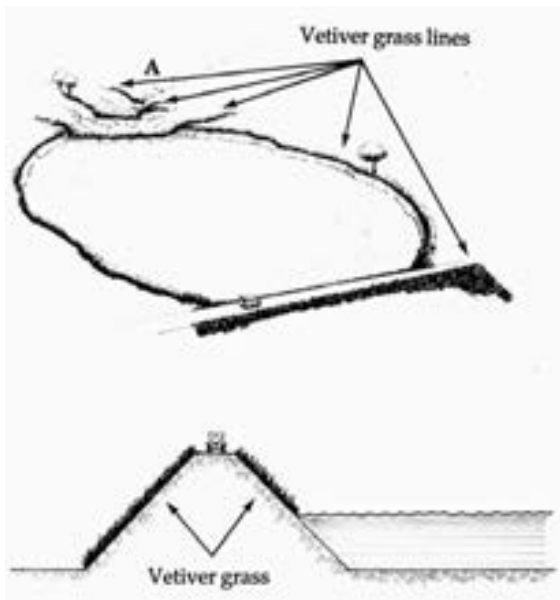

Figure 38. Vetiver hedges protect dams.
A similar approach can be taken to protect dams. Small dams are silting up at an alarming rate throughout the world. Once they become filled with silt, they are of no further use - and in many cases there is no other site suitable for a new dam. If vetiver grass is planted around the sides of the dam, as shown in the illustration below Fig. 38, the silt carried by runoff from the surrounding hills will be trapped before it reaches the dam. Vetiver hedges planted across the inlets (A) of small dams on intermittent streams will protect the dams from siltation. In time, these hedges will form stable terraces that can be used for cropping or tree planting. In the bottom illustration, vetiver has been planted on the walls of a dam to protect them from being worn down by rill erosion, a problem afflicting many unprotected earth dams around the world. A note worthy use of vetiver hedgerows is for stabilizing earth spillways of farm dams. This is a very effective way of preventing spillway erosion.